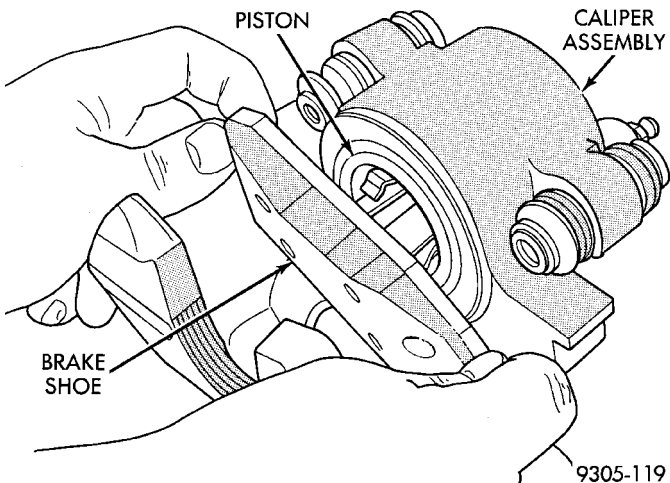

Fig. 65 Installing Inboard Brake Shoe
(5) Install the new inboard brake shoe into the caliper piston by firmly pressing into piston bore with thumbs (Fig. 65). Be sure inboard brake shoe is positioned squarely against the face of the caliper piston.